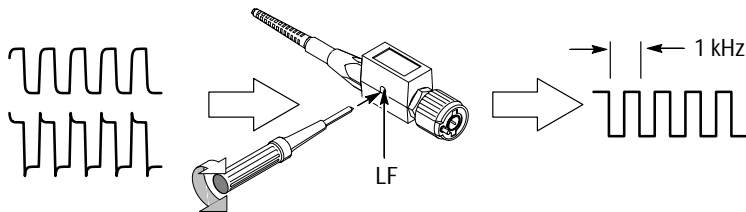

Figure 2: P6562A Low-Frequency Adjustment
5. Using the adjustment tool, adjust **LF** in the probe until you see a flat-top square wave on the display. See figure 2.